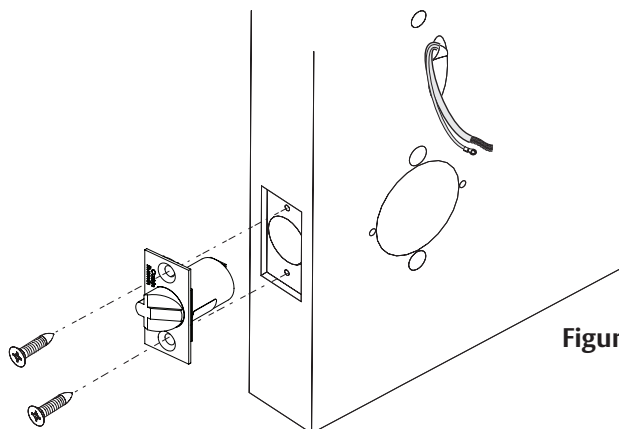

Figure 5-3
Install latch bolt with beveled bolt facing the strike using two (2) #8 x 3/4" combination screws. (Figure 5-3)